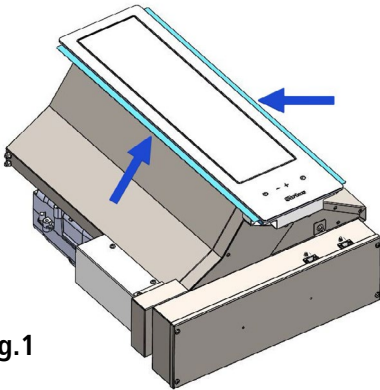
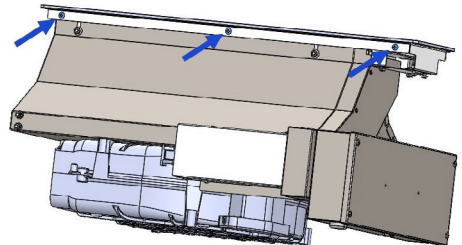

Fig. 1
Fig. 2
2. The downdraft is to be installed with a hob on each side. Two angles come fitted to the hood to support the hobs (Fig.1). If these are not needed, they can be removed by removing the screws (Fig.2).